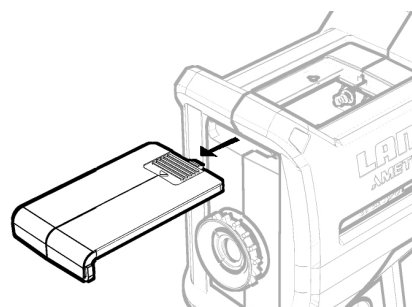

Fig. 4-1
- 2) The battery cover is on the top surface of the thermometer body (see Fig. 4-1).